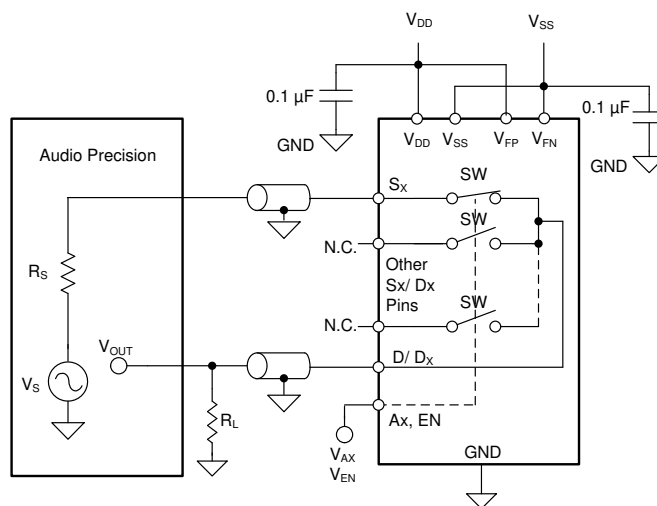

**Figure 7-16. Bandwidth Measurement Setup**
Bandwidth (BW) is defined as the range of frequencies that are attenuated by < 3 dB when the input is applied to the source pin (Sx) of an on-channel, and the output is measured at the drain pin (D) of the TMUX582F-SEP. Figure 7-16 and Equation 3 shows the setup used to measure bandwidth of the switch.